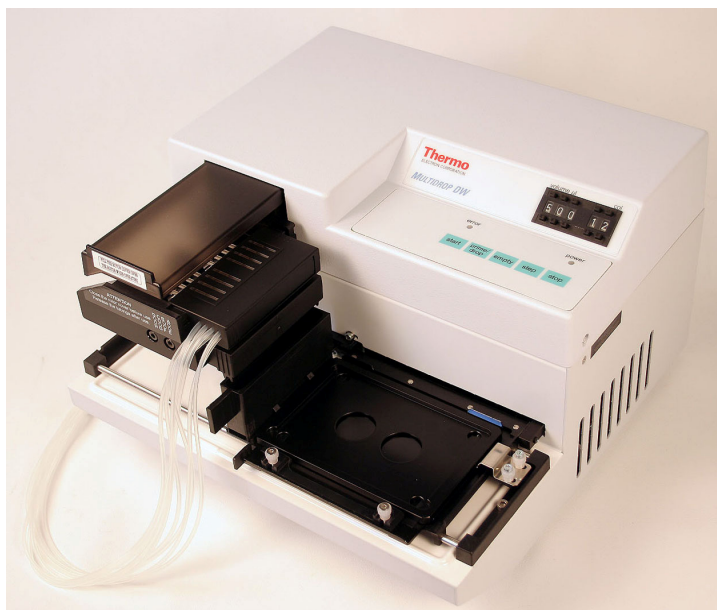

Fig. 6.12 Plate adapter for tubes in a 96-channel rack inserted into the plate carrier
- First place the plate adapter for the tubes in a 96-channel rack firmly into the plate carrier (*Fig. 6.12*).